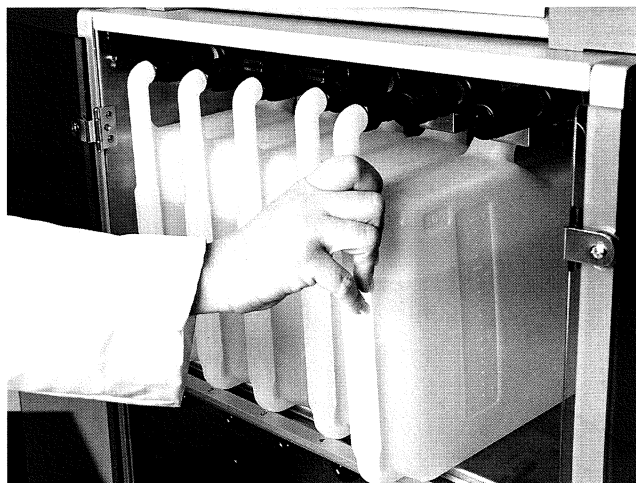

Figure 2-7
- a. Carefully slide the bottle into the proper station, cap end first, until the nozzle begins to slide into the quick-release connector (Figure 2-7).